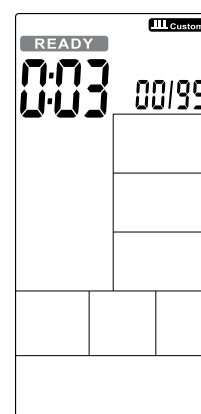

Figure 35
- ④ Cycle time counts down from 3 to 0 then console start, meanwhile buzzer beeps once per second and **READY** flashes once per second, counting displays '00/XX'(Figure 35).